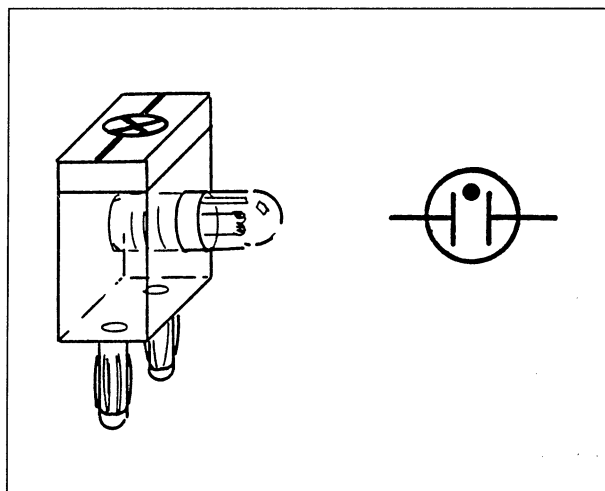

Fig. 3 Left: screw socket with glow lamp
6. Use a glow lamp (▶ Fig. 3) instead of the incandescent lamp (▶ Fig. 1).